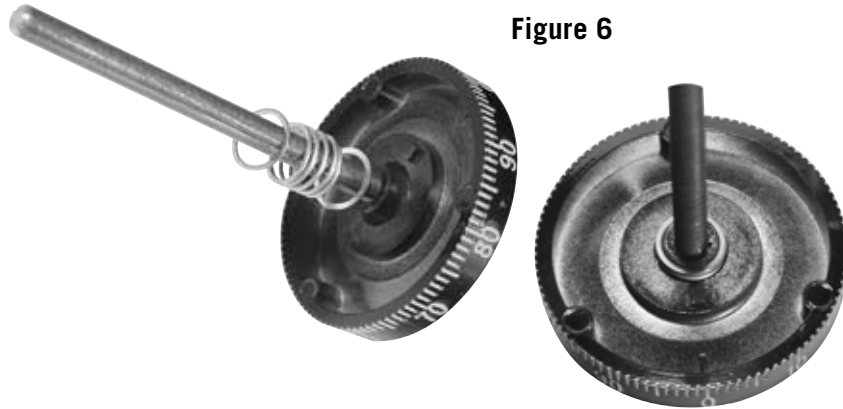

Figure 6
- Place a flat washer, the compression spring, and another flat washer over the spindle and into the recess at the dial hub (Figure 6).